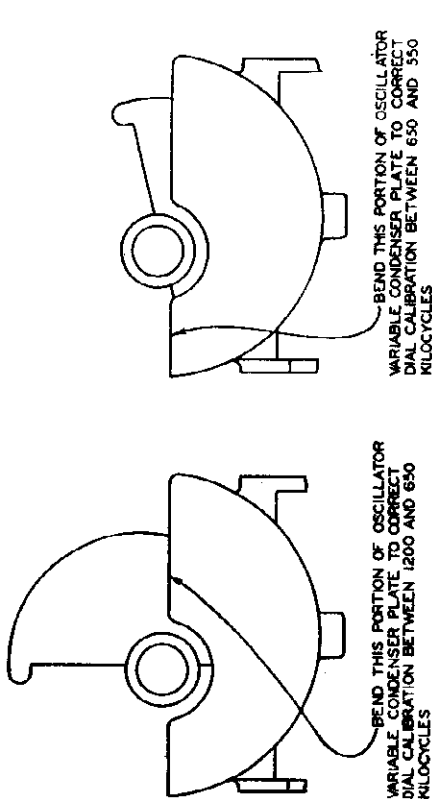

FIG. 2. ILLUSTRATING PORTION OF OSCILLATOR VARIABLE CONDENSER PLATE TO BEND WHEN CORRECTING DIAL CALIBRATION
- If the calibration is incorrect between 600 and 1200 kilocycles, tune in a station at about 900 kilocycles. If the calibration is incorrect between 600 and 150 kilocycles, tune in a station at about 600 kilocycles. Then bend slightly inward, if the pointer is lower than the required point, or outward, if it is higher than the required point; one or both of the rotor plates (not rotor plate) of the oscillator variable condenser. Make the bend on the portion of the plate indicated in Fig. 2, depending upon the frequency at which this operation is being performed.